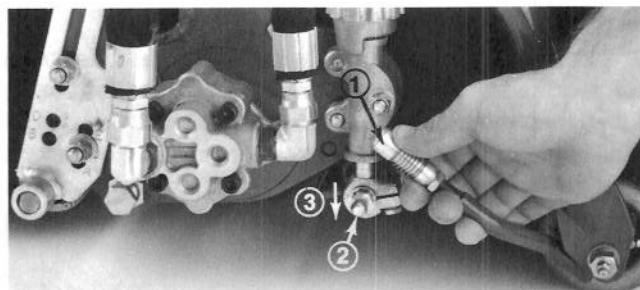

Figure 8
5. Slide the sleeve back on the ball joint and rotate the pull arm down so the socket fits over the ball stud. Release the sleeve so it slides over the stud and locks the assemblies together (Fig. 8).